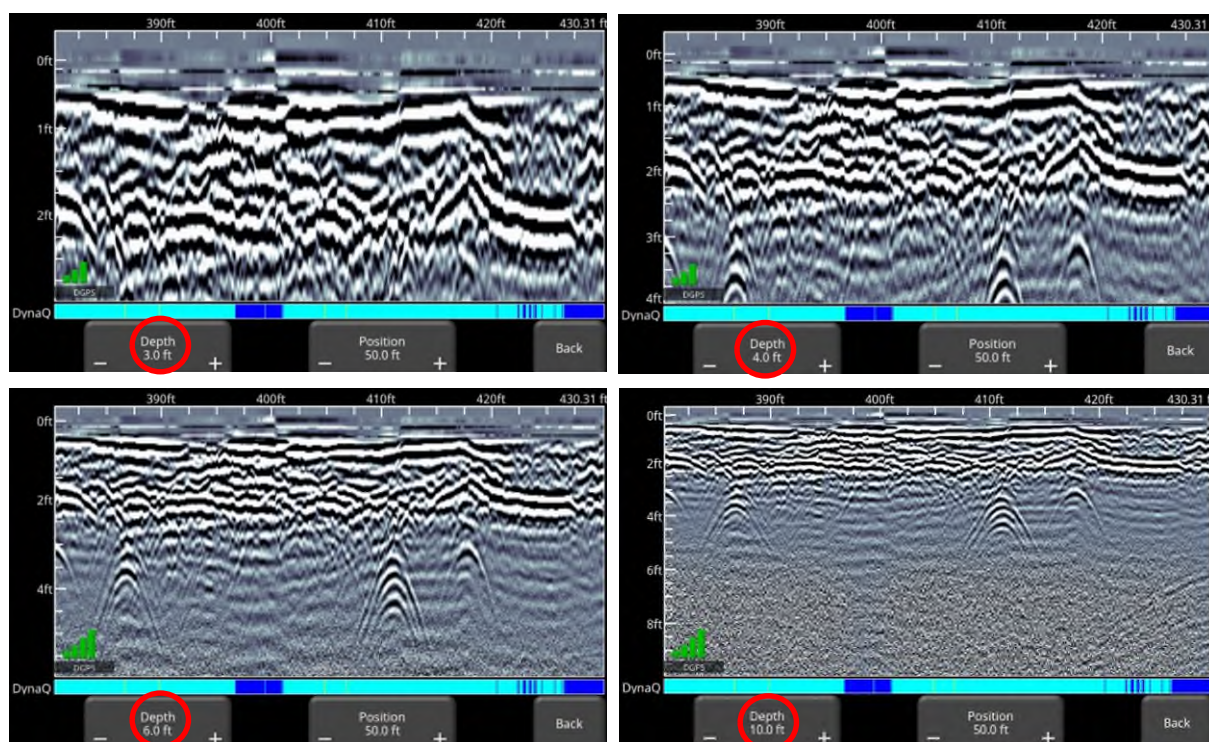

Figure 6-12: Varying displayed depth
- **Depth** – Pressing **+** and **-** under the **Depth** button allows you to change the display depth of the data. This is commonly referred to as the depth window. The pre-set values range from 0.5m to 4m (2' to 15'), see Figure 6-12.